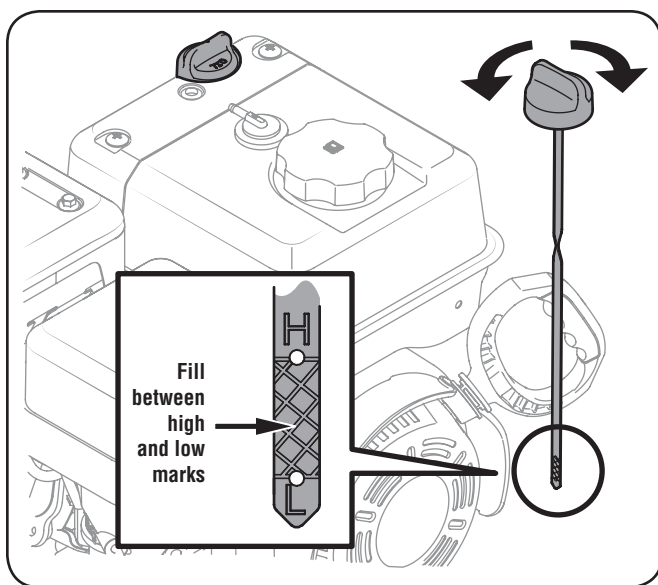

Figure 3-6
- Keep oil level between “H” and “L” marks on dipstick. See Figure 3-6.
1. Remove the oil filler cap/dipstick and wipe the dipstick clean. See Figure 3-6.
3. Remove the oil filler cap/dipstick. If the level is low, slowly add oil until oil level registers between high (H) and low (L), Figure 3-6.
4. Loosen and remove the oil fill cap dipstick from the oil filler tube. Note the oil level, if oil reading on the dipstick is below the "L" mark, slowly add oil to reach the "H" level. See Figure 3-6.